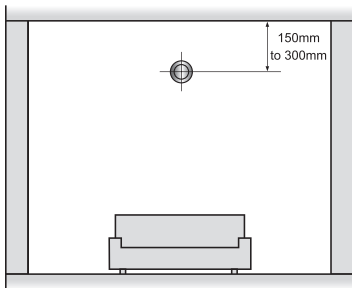

Fig.5
- The top of the detection element is between 150mm and 300mm below the ceiling (see Figure 5).